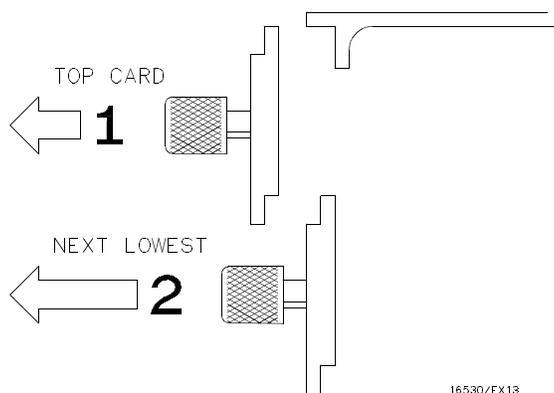

Figure 2-11. Endplate Overlap
3. Starting **from the top**, loosen thumb screws on filler panels and cards that need to be moved. Starting **from the top**, pull the cards and filler panels **half-way** out. See figure 2-11.